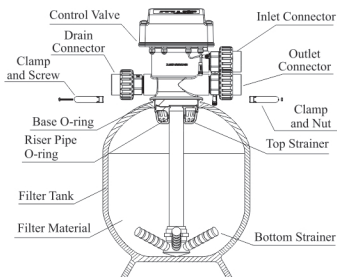

Figure 1-2
- c. As the Figure 1-2 shows, slowly insert the top strainer into the riser pipe, and then install the control valve on the tank. Then install the clamp and the inlet, outlet, and drain connectors.